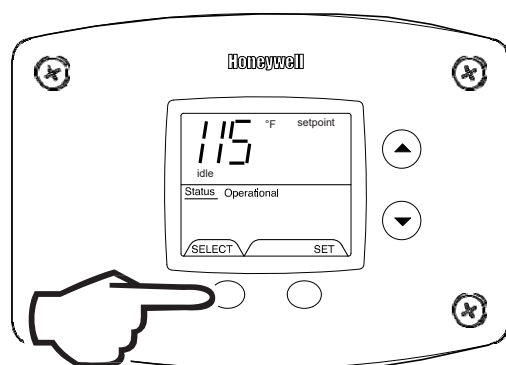

Fig. 60
1. In 'Service Mode' press the 'Select' button until 'Setpoint' is shown in the water heater display (Fig. 60).